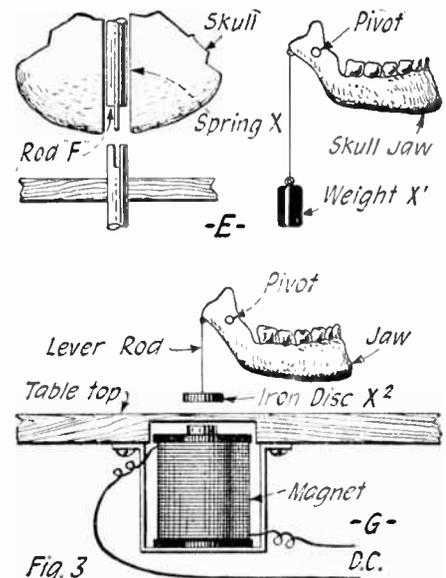

Fig. 3
The apparatus is made up as shown in the illustration: first a base of suitable size is made and two holes are bored at one end for the binding posts. A small box is then made to fit as shown in Fig. 3. This has a circular hole cut in the top and another hole in the side, large enough to insert objects to be magnified. A hole
In conclusion several points may be mentioned which if followed will make the apparatus work and appear much more professional. Firstly, the contact disc had best be geared up to the motor, so that it makes about one revolution to 20 or more of the motor shaft. Again, the skull should be arranged so that it may be picked up from the stand and shown to the audience. At Fig. 3 (E), is indicated how a separable rod joint (X) may be contrived, enabling the operator to remove the skull easily for inspection. An indirect electrical method is the best way in which to actuate the jaw. At Fig. 3 (G), is perceived how the electromagnet (D) may influence magnetically an iron disc (X), joined to the movable jaw, as usual, by a lever or wire. This permits of minute inspection by the audience. Again, the effect can be attained by placing an aluminum ring in the jaw (properly balancing the jaw to make it work easily) and an alternating current electromagnet, by induction, will repel the ring (and hence the jaw also) whenever it is energized.